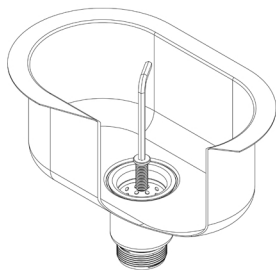

FIG 3
d) Hold main body of the scraptrap under the 40mm outlet, screw the centre bolt through the fixed basket into the main body from the top of the sink. Tighten with Allen key provided as shown in Fig 3.